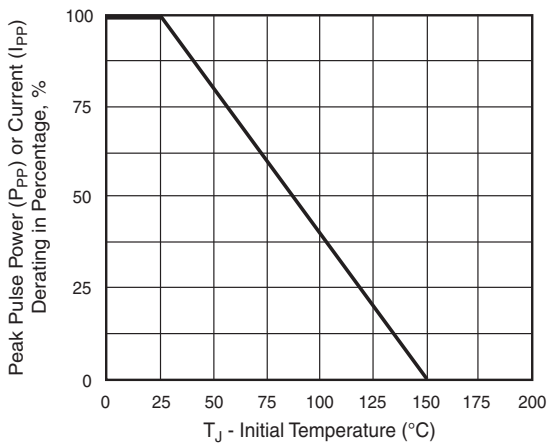
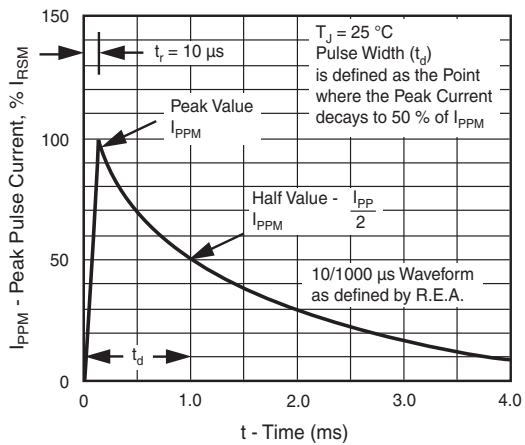

Fig. 2 - Pulse Power or Current vs. Initial Junction Temperature
Fig. 3 - Pulse Waveform
Note 1. Non-repetitive current pulse, per Fig. 3 and derated above $T_A=25^\circ\text{C}$ per Fig. 2
2. Surge current waveform per Fig. 3 and derated per Fig. 2